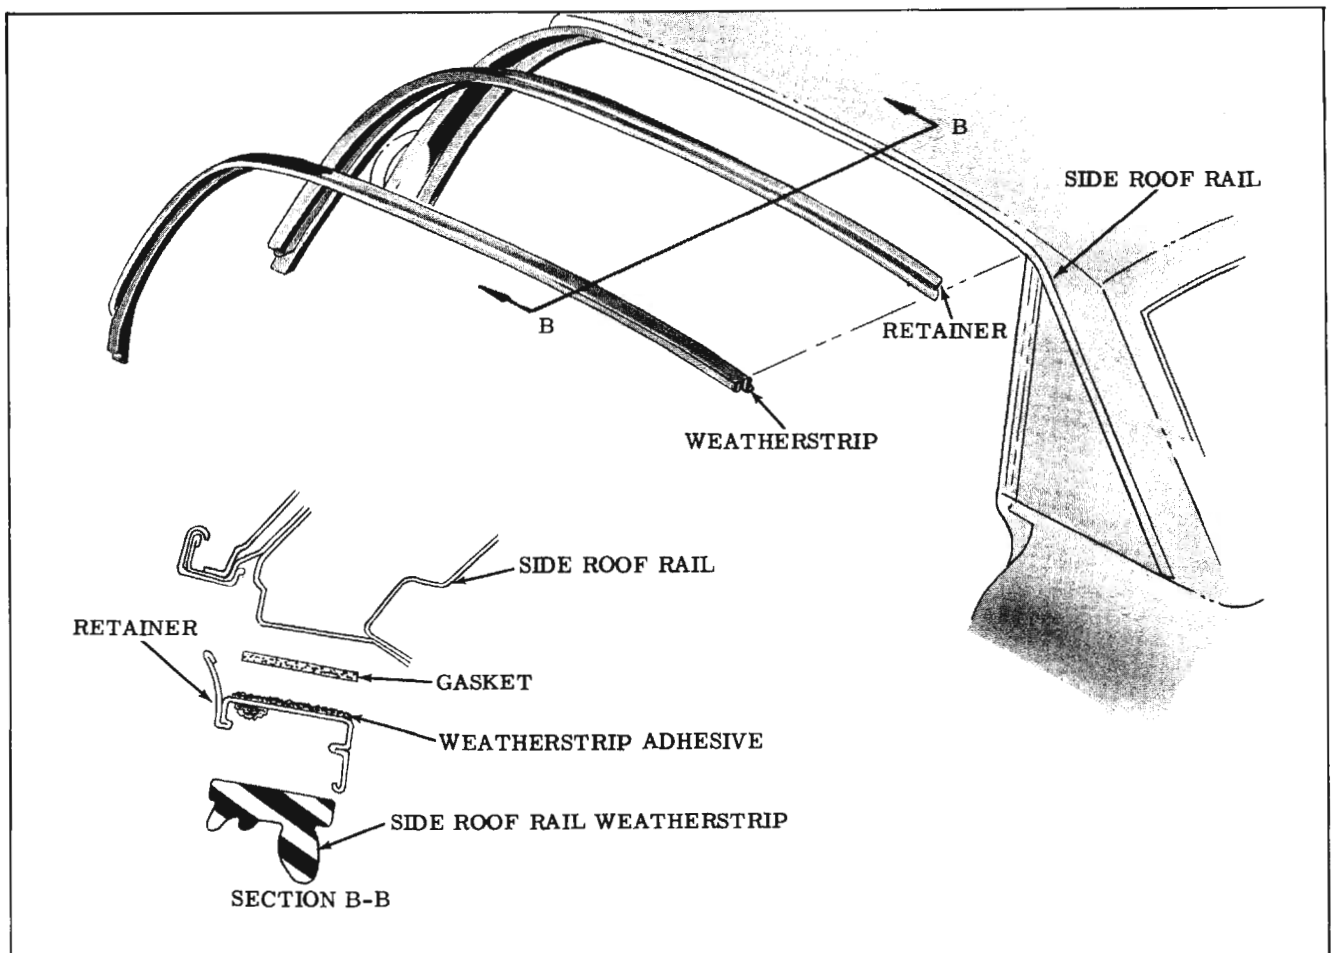

Fig. 16-62 Side Roof Weatherstrip Assembly ("29" Style)
2. Apply a continuous bead (approximately 3/16" diameter) of weatherstrip adhesive along entire outboard surface of side roof rail weatherstrip retainer. (Section "B-B", Fig. 16-62)